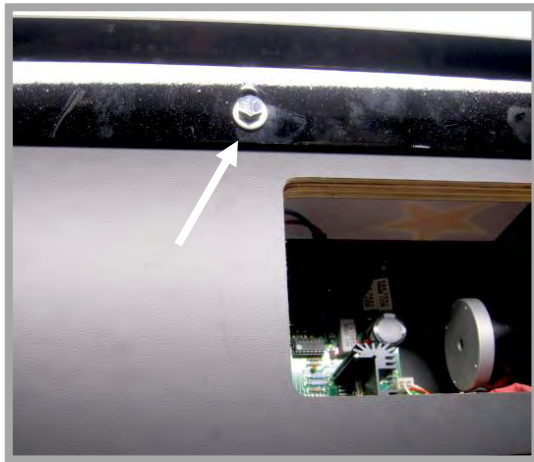

Fig. 7
3. Remove the 1/4-20 Bolt that is located on the inside rear panel of the Jump Assembly (see Fig. 7).